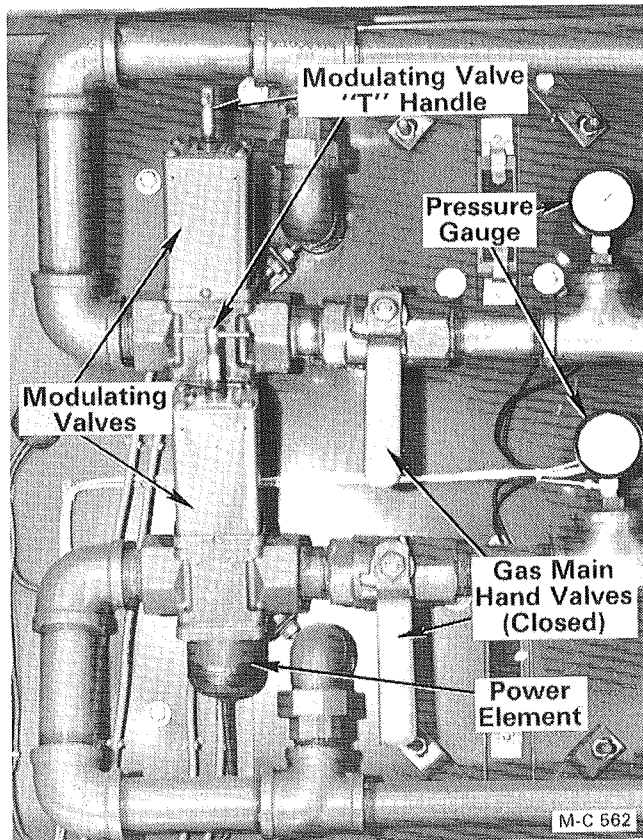

Figure 45 - Two Burner Cabinet
- B. Close the gas main hand valve for each burner (handle 90° to the piping), see Figure 45.